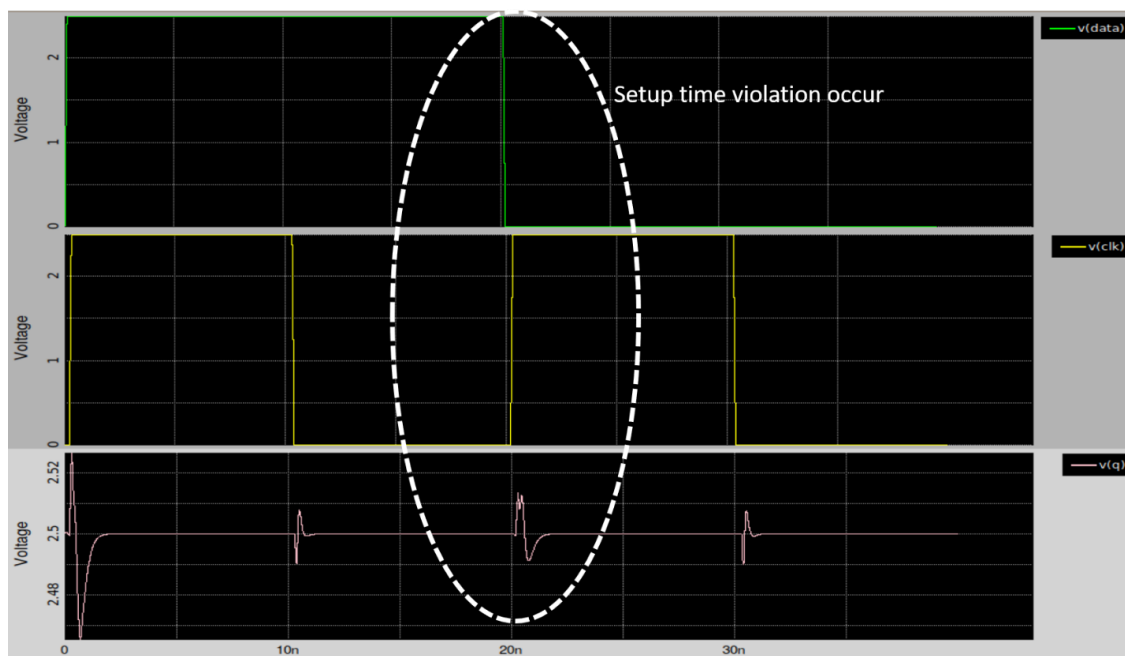

Figure 8: example case when a setup violation occurs.
- Set the time of simulation to 2 data periods (40ns in our case) with data flipping (in Figure 8, in my case data is going from high to low as shown in figure below).
- Manually sweep the number till the setup time violation occurs. (Hint: sweep the delay finer to see the effect). As soon as the setup time violates the output will not flip even though input flips, as shown in Figure 8. The setup time can be then defined as the minimum amount of time used in the delay parameter, so a violation occurs.